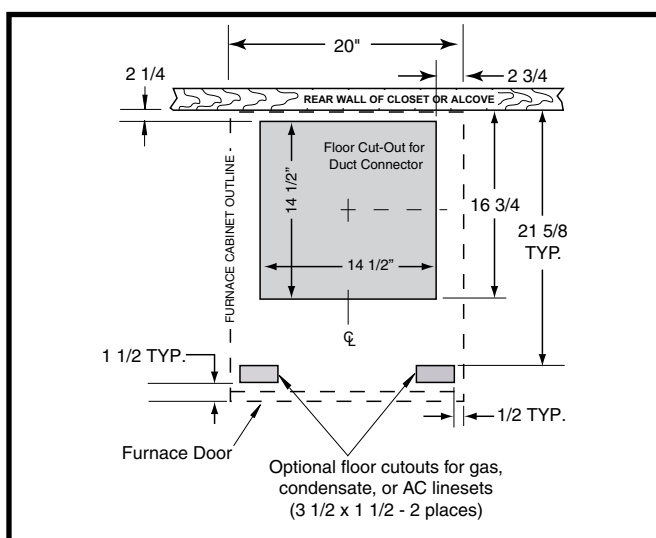

Figure 9. Floor Cutout Dimensions
1. Measure from the rear wall or alcove and mark the centerline of the cut-out on the floor. Using the centerline as a starting point, draw the rest of the duct cut-out to the dimensions shown in Figure 9.